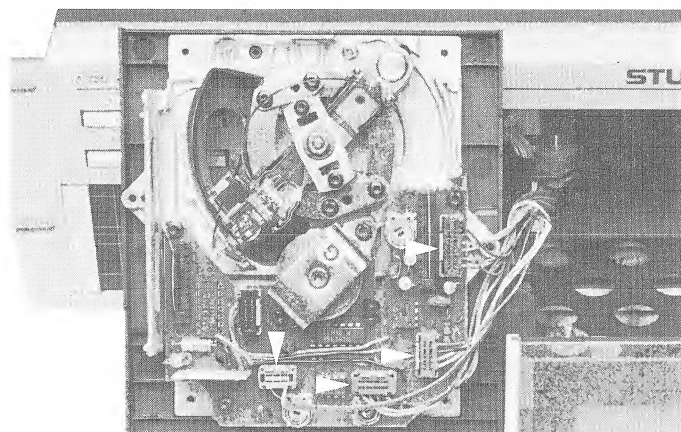

Fig. 2.5
- Unfasten screws (D) and set the CD player back in its normal position on the bench (NOTE: hold the player mechanism with your hand to prevent it from falling out of the drawer).
- Detach the four connectors (see Fig. 2.5).